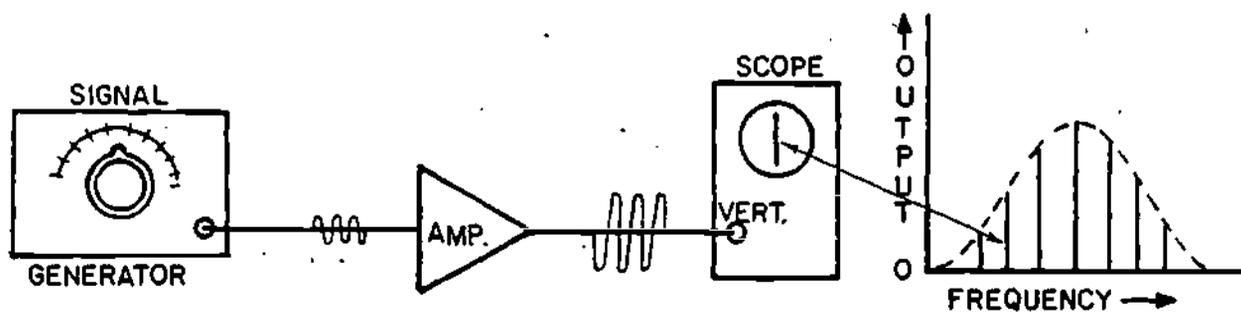

Figure 36
37. In the first lesson in this module, you learned that amplifiers must amplify signals in the audio or video frequency range. Therefore, you must be able to determine whether an amplifier is actually amplifying the required frequencies. We now will discuss a method to test the frequency response of any amplifier. Figure 36 shows a diagram of one test method.
The test equipment includes a standard signal generator and an oscilloscope. To perform the test, you first set the signal generator to exact frequency values within the frequency range of the test amplifier. The amplifier's output is then measured on the oscilloscope. In Figure 36, the height of the vertical line on the oscilloscope's CRT shows the amplitude of the output from the amplifier at one test frequency. You can plot a graph of the vertical lines for all test frequencies as shown in the figure. You then get a frequency response curve by connecting the top of the vertical lines on the graph with a smooth curve.
In Figure 36, the image on the oscilloscope represents the \_\_\_\_\_